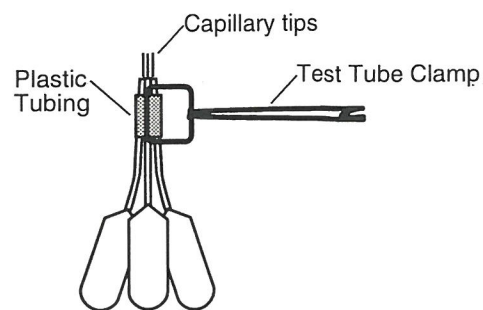

Figure 2.
- Insert the tips of the pipets containing the ethyl alcohol into the short piece of plastic tubing, then secure the tubing with a test tube clamp (Figure 2).